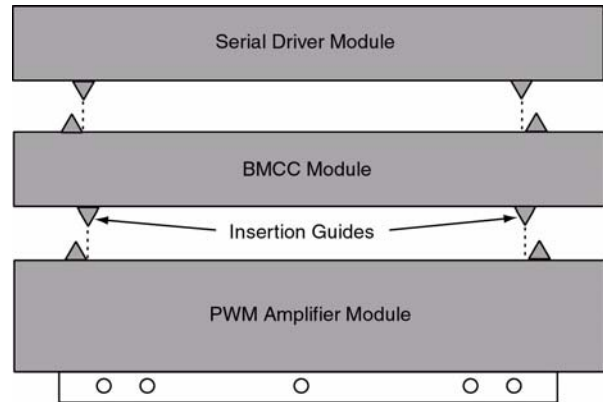

Figure 6-7 Module Insertion Guides
1. Align the BMCC module's two lower guides so that they are aligned on the inside of the PWM Amplifier module's two upper guides. Note the insertion guides in Figure 6-7.